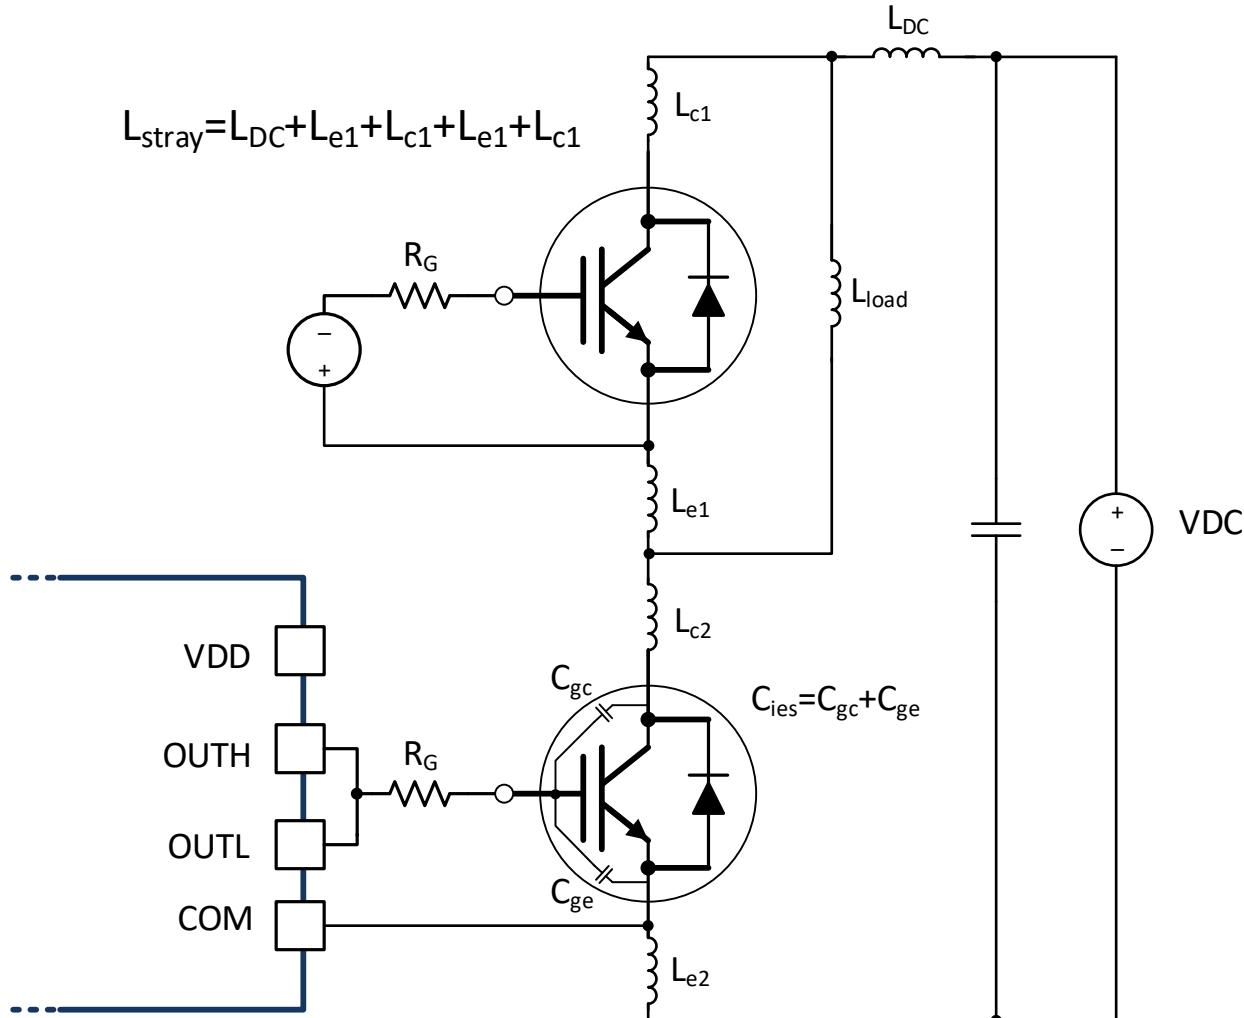

图 9-6. Stray Parasitic Inductance of IGBTs in a Half-Bridge Configuration
- L_{stray} is the stray inductance in power switching loop, as shown in 図 9-6